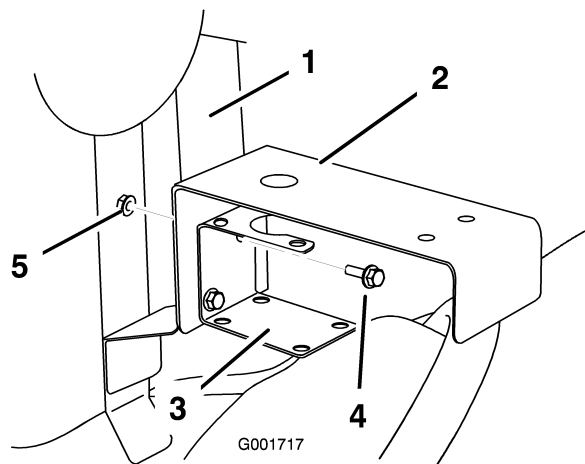

Figure 10
6. Install the control valve bracket between the supply tee bracket and the mounting frame (Figure 10) using the fasteners removed previously.